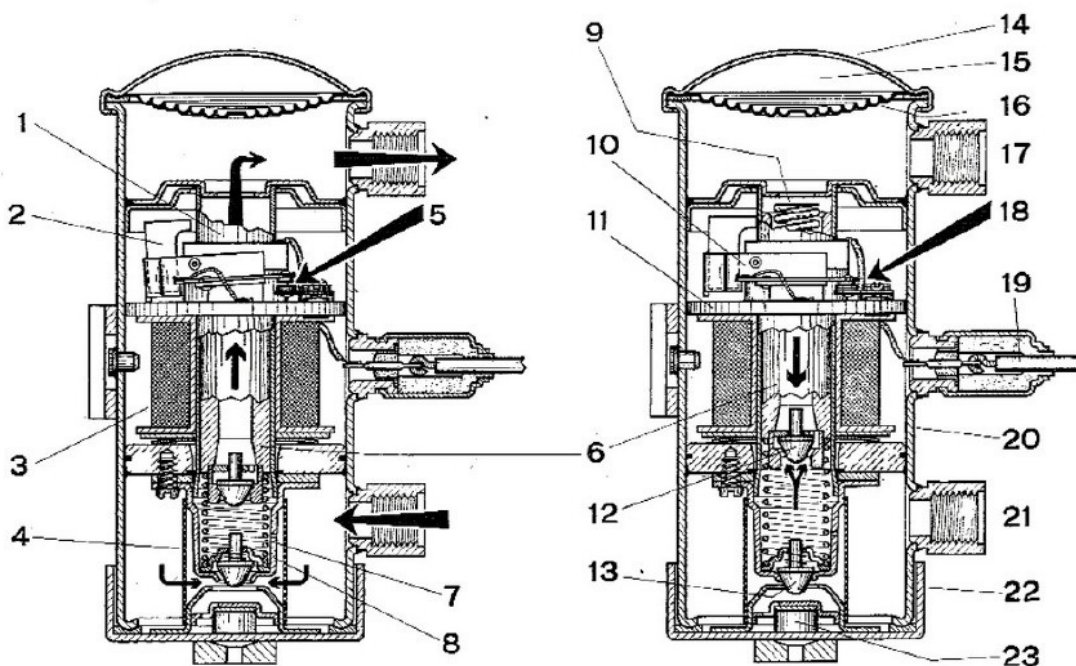

Fig. 81. - Electric fuel pump diagram.
- in the upward stroke of plunger the pump draws and lifts fuel (fig. 81 - left illustration);
- in the downward stroke, the plunger just displaces fuel inside the cylinder (fig. 81 - right illustration).